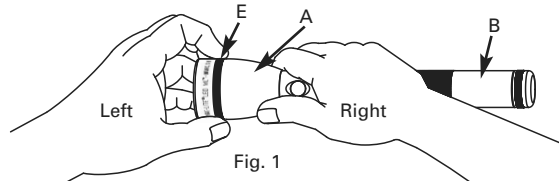

Fig. 1
1. Begin by unlocking the flashlight's skirt (A) by grasping the flashlight's barrel (B) in your right hand and its head in your left hand, extending your right thumb and index finger onto the base of the flashlight's skirt (A), as seen in Fig. 1: